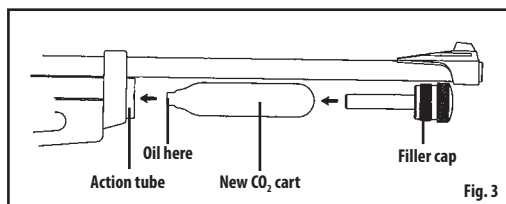

Fig. 3
- Insert the new CO₂ cartridge into the airgun with the small neck of the CO₂ cartridge into the action tube first (Fig. 3).